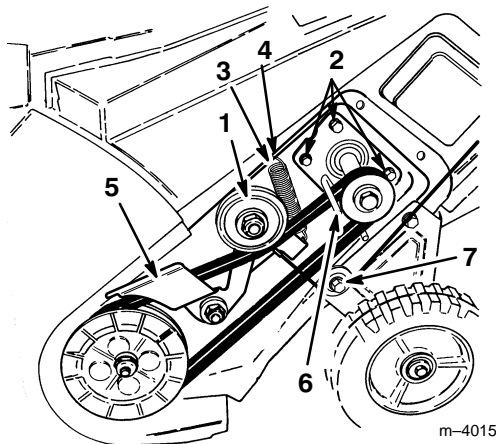

Figure 12
5. Loosen the four engine mounting nuts enough to allow the belt guide to rotate away from the drive pulley to remove the belt (Fig. 12).
12. Ensure that the long end of the idler spring is hooked in the housing hole and the round end of the spring is hooked in the brake arm (Fig. 12).
13. Lift up the brake arm assembly, squeeze the drive belt together, and route the drive belt under the idler pulley (Fig. 12).
IMPORTANT: Ensure that the drive cable is on the cable pulley before you install the left side cover (Fig. 12)